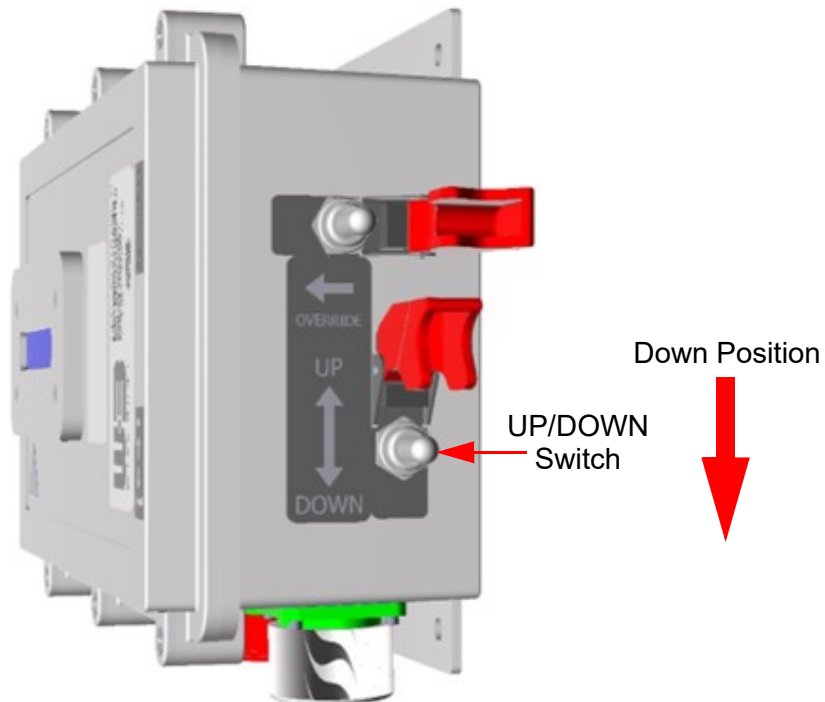

Figure 6-3 UP/DOWN Switch Down Position
2. Hold the UP/DOWN Switch in the down position (Figure 6-3). As long as the UP/DOWN Switch is held in the down position, the mast will retract and the display will show the appropriate intermediate extension height. Be sure to stay clear of the collars during operation as they create a pinch point hazard.